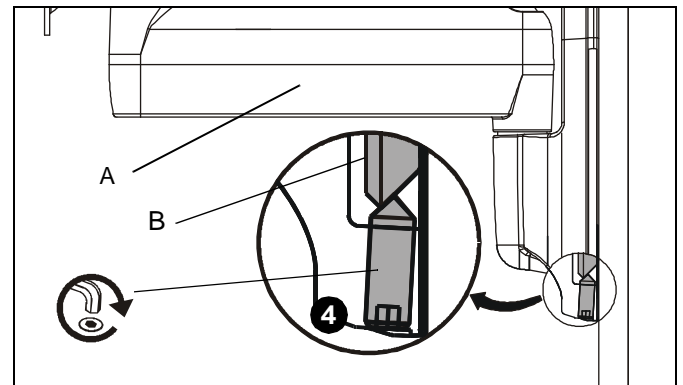

Figure 3
4. Tighten set screw using 5/32" hex key (D). (See Figure 3)
**CAUTION:** IMPROPER INSTALLATION CAN LEAD TO DISPLAY FALLING CAUSING SERIOUS PERSONAL INJURY OR DAMAGE TO EQUIPMENT! Make sure set screw engages back side of mounting dish on wall bracket (B). (See Figure 3)